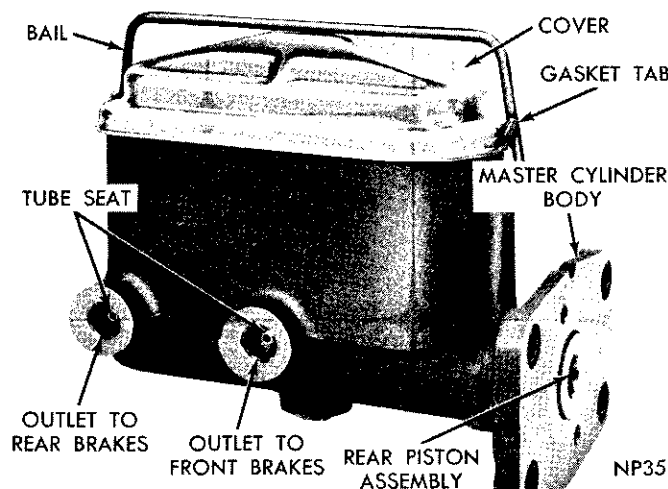
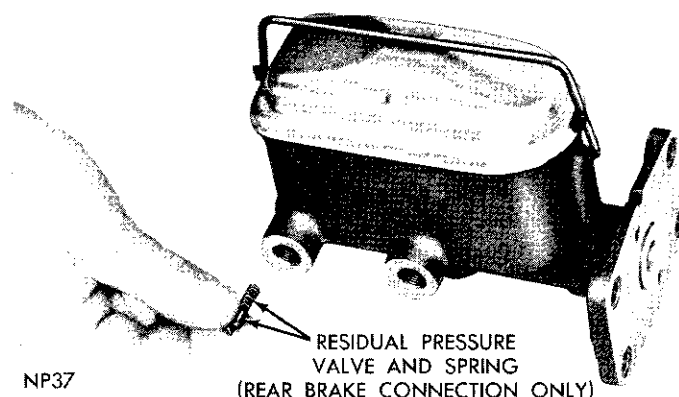

Fig. 1—Tandem Master Cylinder
Fig. 3—Removing or Installing Residual Pressure Valve and Spring
The tandem master cylinder (Fig. 1) (1 and 1/8 inch bore) is of the compensating type with the reservoirs cast integrally. The master cylinder consists of a front and rear piston (in tandem) two outlets, with 1 containing a residual pressure valve and spring (rear brake line outlet only) (Fig. 3).
To disassemble the master cylinder, (Figs. 1 and 4), clean the outside of the master cylinder thoroughly.
(6) Remove residual pressure valve and spring from front outlet (Fig. 3).
(7) Remove rubber cups from pistons after noting position of cup lips. Do not remove center cup of rear piston. If cup is damaged or worn, install a new rear piston assembly.
(4) Install residual pressure valve and spring (Fig. 3) in **front** brake outlet, then install tube seats firmly. (When the bleeding tubes are attached, the tube seats will be positioned correctly.)